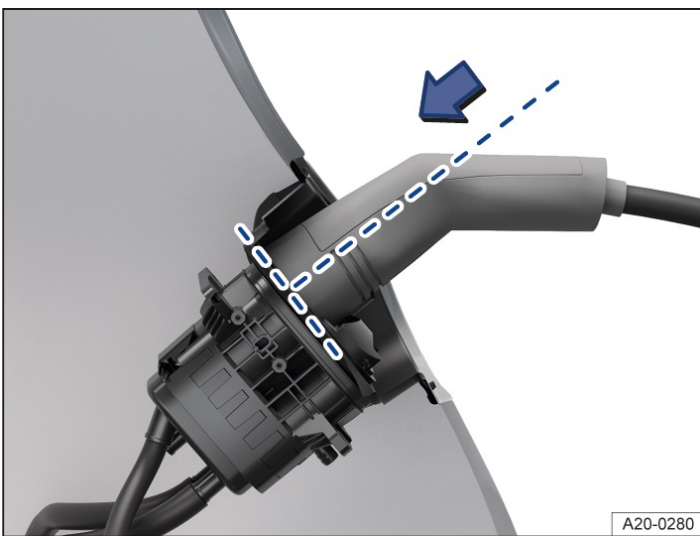

Fig. 2 Fully inserted charging connector (illustration).
4. Plug the charging connector straight into the charging socket and check to make sure that it is inserted completely → Fig. 2.